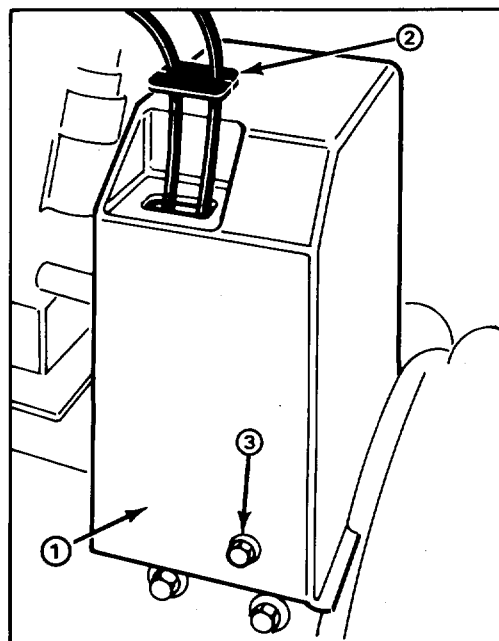

Figure 25
1. Remove (3) flange head capscrews securing belt cover to engine frame and slide cover up cables (Fig. 25).